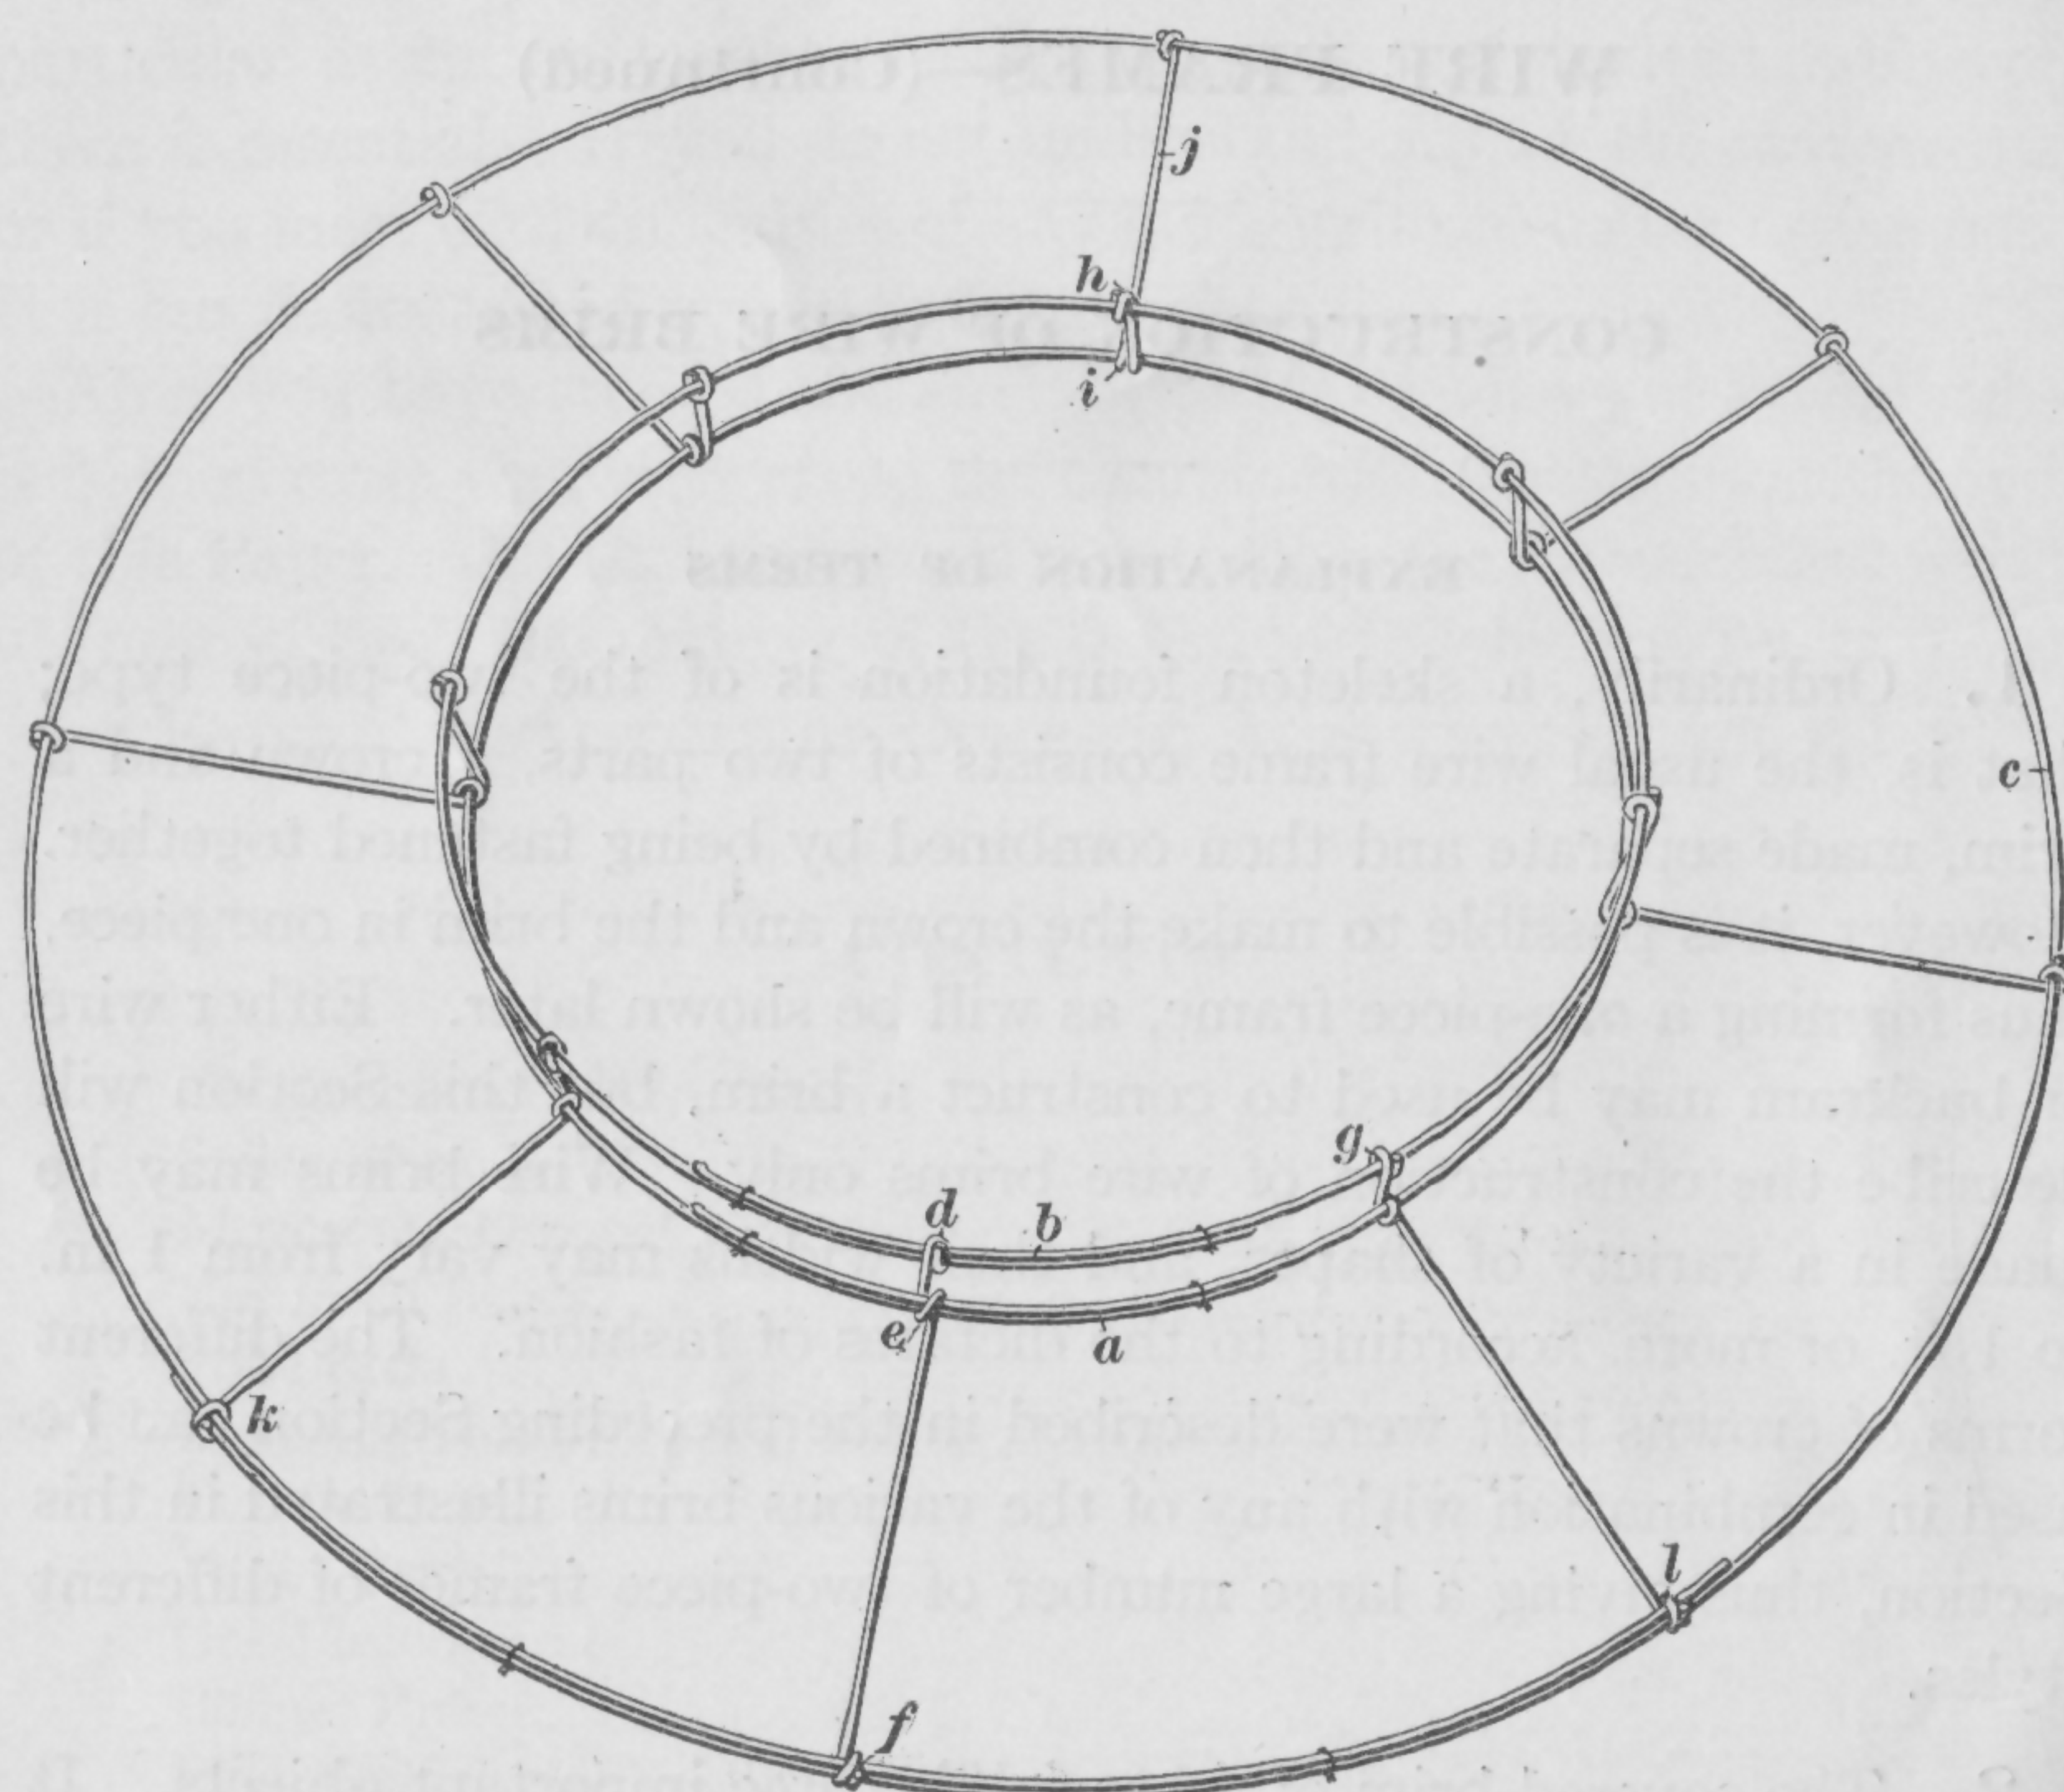

FIG. 1
3. A very simple form of wire brim, known as the **sailor brim**, is shown in Fig. 1. Various lengths of head-size and edge wires and
4. The distance *d e*, Fig. 1, between the brace wire *b* and the head-size wire *a* is  $\frac{1}{2}$  in., and the width *e f* of the brim is 3 in. If 2 in. is allowed at each end for making the twists, the length of wire required for each support wire is  $2 + \frac{1}{2} + 3 + 2 = 7\frac{1}{2}$  in. Therefore, cut eight
measure. Next, bend all of the support wires so that they stick straight out from the head-size wire as in Fig. 1, and set the 43-in. edge wire into the bends at their outer ends, taking care to have the mark *f*, at the middle of the overlapped ends, directly opposite the points *d* and *e*. Then twist the support wires around the edge wire at the eight marked points, cut off their ends, and press the twists firmly. To give stiffness, make the edge wire 55 in. long, so that it will have a 12-in. overlap. The overlapped wires will then extend across three support wires, as shown at *k*, *f*, and *l*. If the ends at *k* and *l* are found to be too long, they can be cut off after the brim is finished. The sailor brim may be made either circular or oval in shape. Five yards of wire will be sufficient to make this brim.
6. If the edge wire is made 43 in. around, the brim in Fig. 1 will be straight and flat, and 3 in. wide; but if it is desired to have the brim slope downwards all around, all that is necessary is to make the edge wire shorter. The shorter the edge wire, the more sharply will the brim slope downwards. For example, if the edge wire is 4 in. shorter, or 39 in. around, and the width of the brim is kept at 3 in., the outer edge of the brim will be almost 2 in. lower than that shown in Fig. 1, forming what may be termed a drooped brim. It will be observed in the illustration that no brace wires are used between the head-size wire *a* and the edge wire *c*. If the braid or other material used to cover the brim is stiff or strong, no additional brace wires are needed; but if the material is light in weight, it may be necessary to put in one or more brace wires.